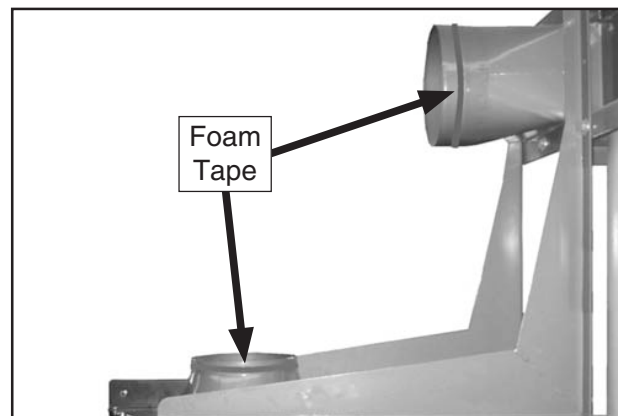

Figure 26. Foam tape applied to the outlet port and canister adapter (Model G0440/G0443).
- a. Apply the 3 x 15mm foam tape to the edges of the outlet port and the canister adapter, as shown in **Figure 26**.